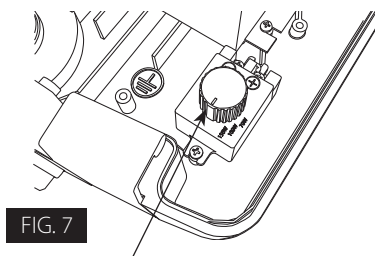

FIG. 7
2. Locate Power (W) Adjusting Knob as shown in Fig. 7.
3. Select Power (W) setting by turning the respective switch to the desired value as shown in Fig. 7.
4. Close the Driver Cover Box and secure with Screws (2) and close Latches (2).